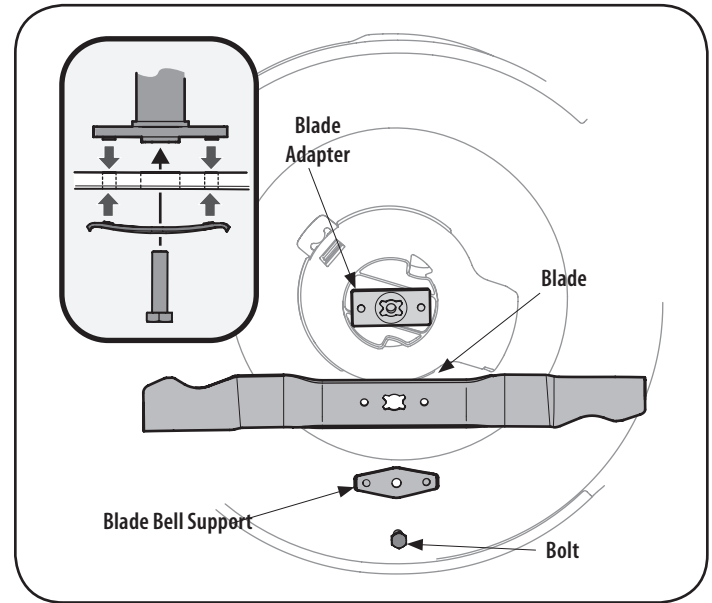

Figure 15
3. Remove the bolt and the blade bell support which hold the blade and the blade adapter to the engine crankshaft. See Figure 15.
6. Lubricate the engine crankshaft and the inner surface of the blade adapter with light oil. Slide the blade adapter onto the engine crankshaft. Place the blade on the adapter such that the side of the blade marked "Grass Side" (or with part number) faces the ground when the mower is in the operating position. Make sure that the blade is aligned and seated on the blade adapter flanges. See Figure 15 inset.